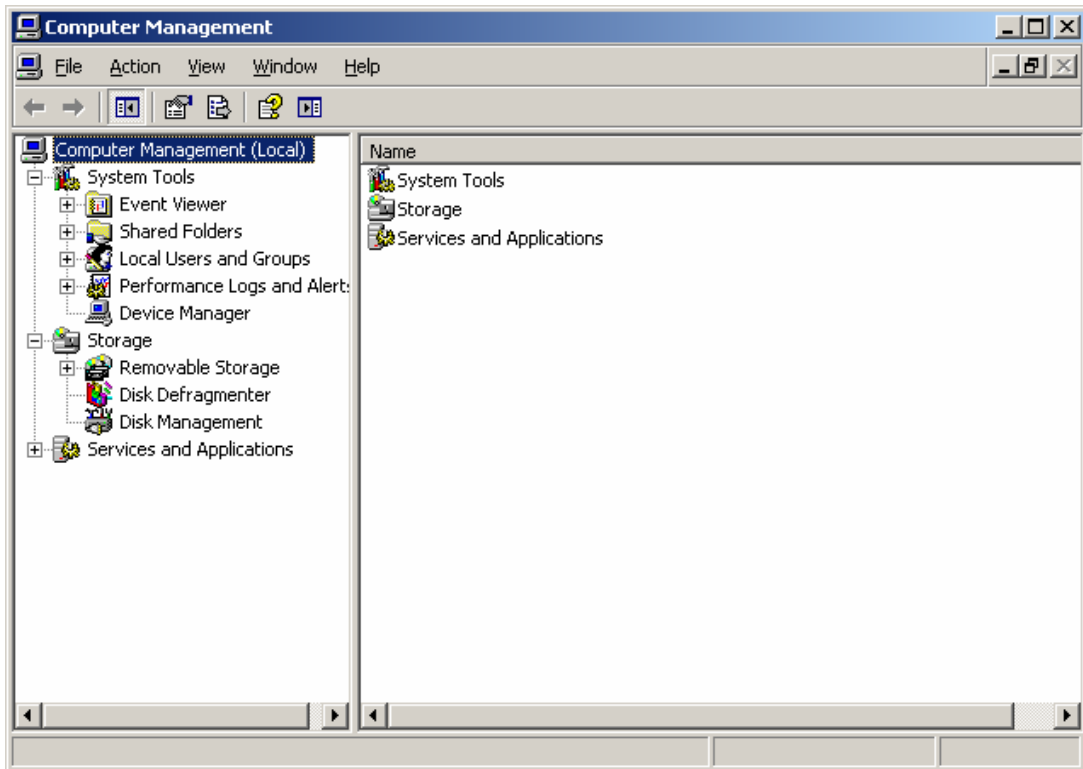

Figure 37
4. A window titled **Computer Management** will open as in Figure 37. Find **Device Manager** on the left side of the window and select it using the computer-pointing device's left button.